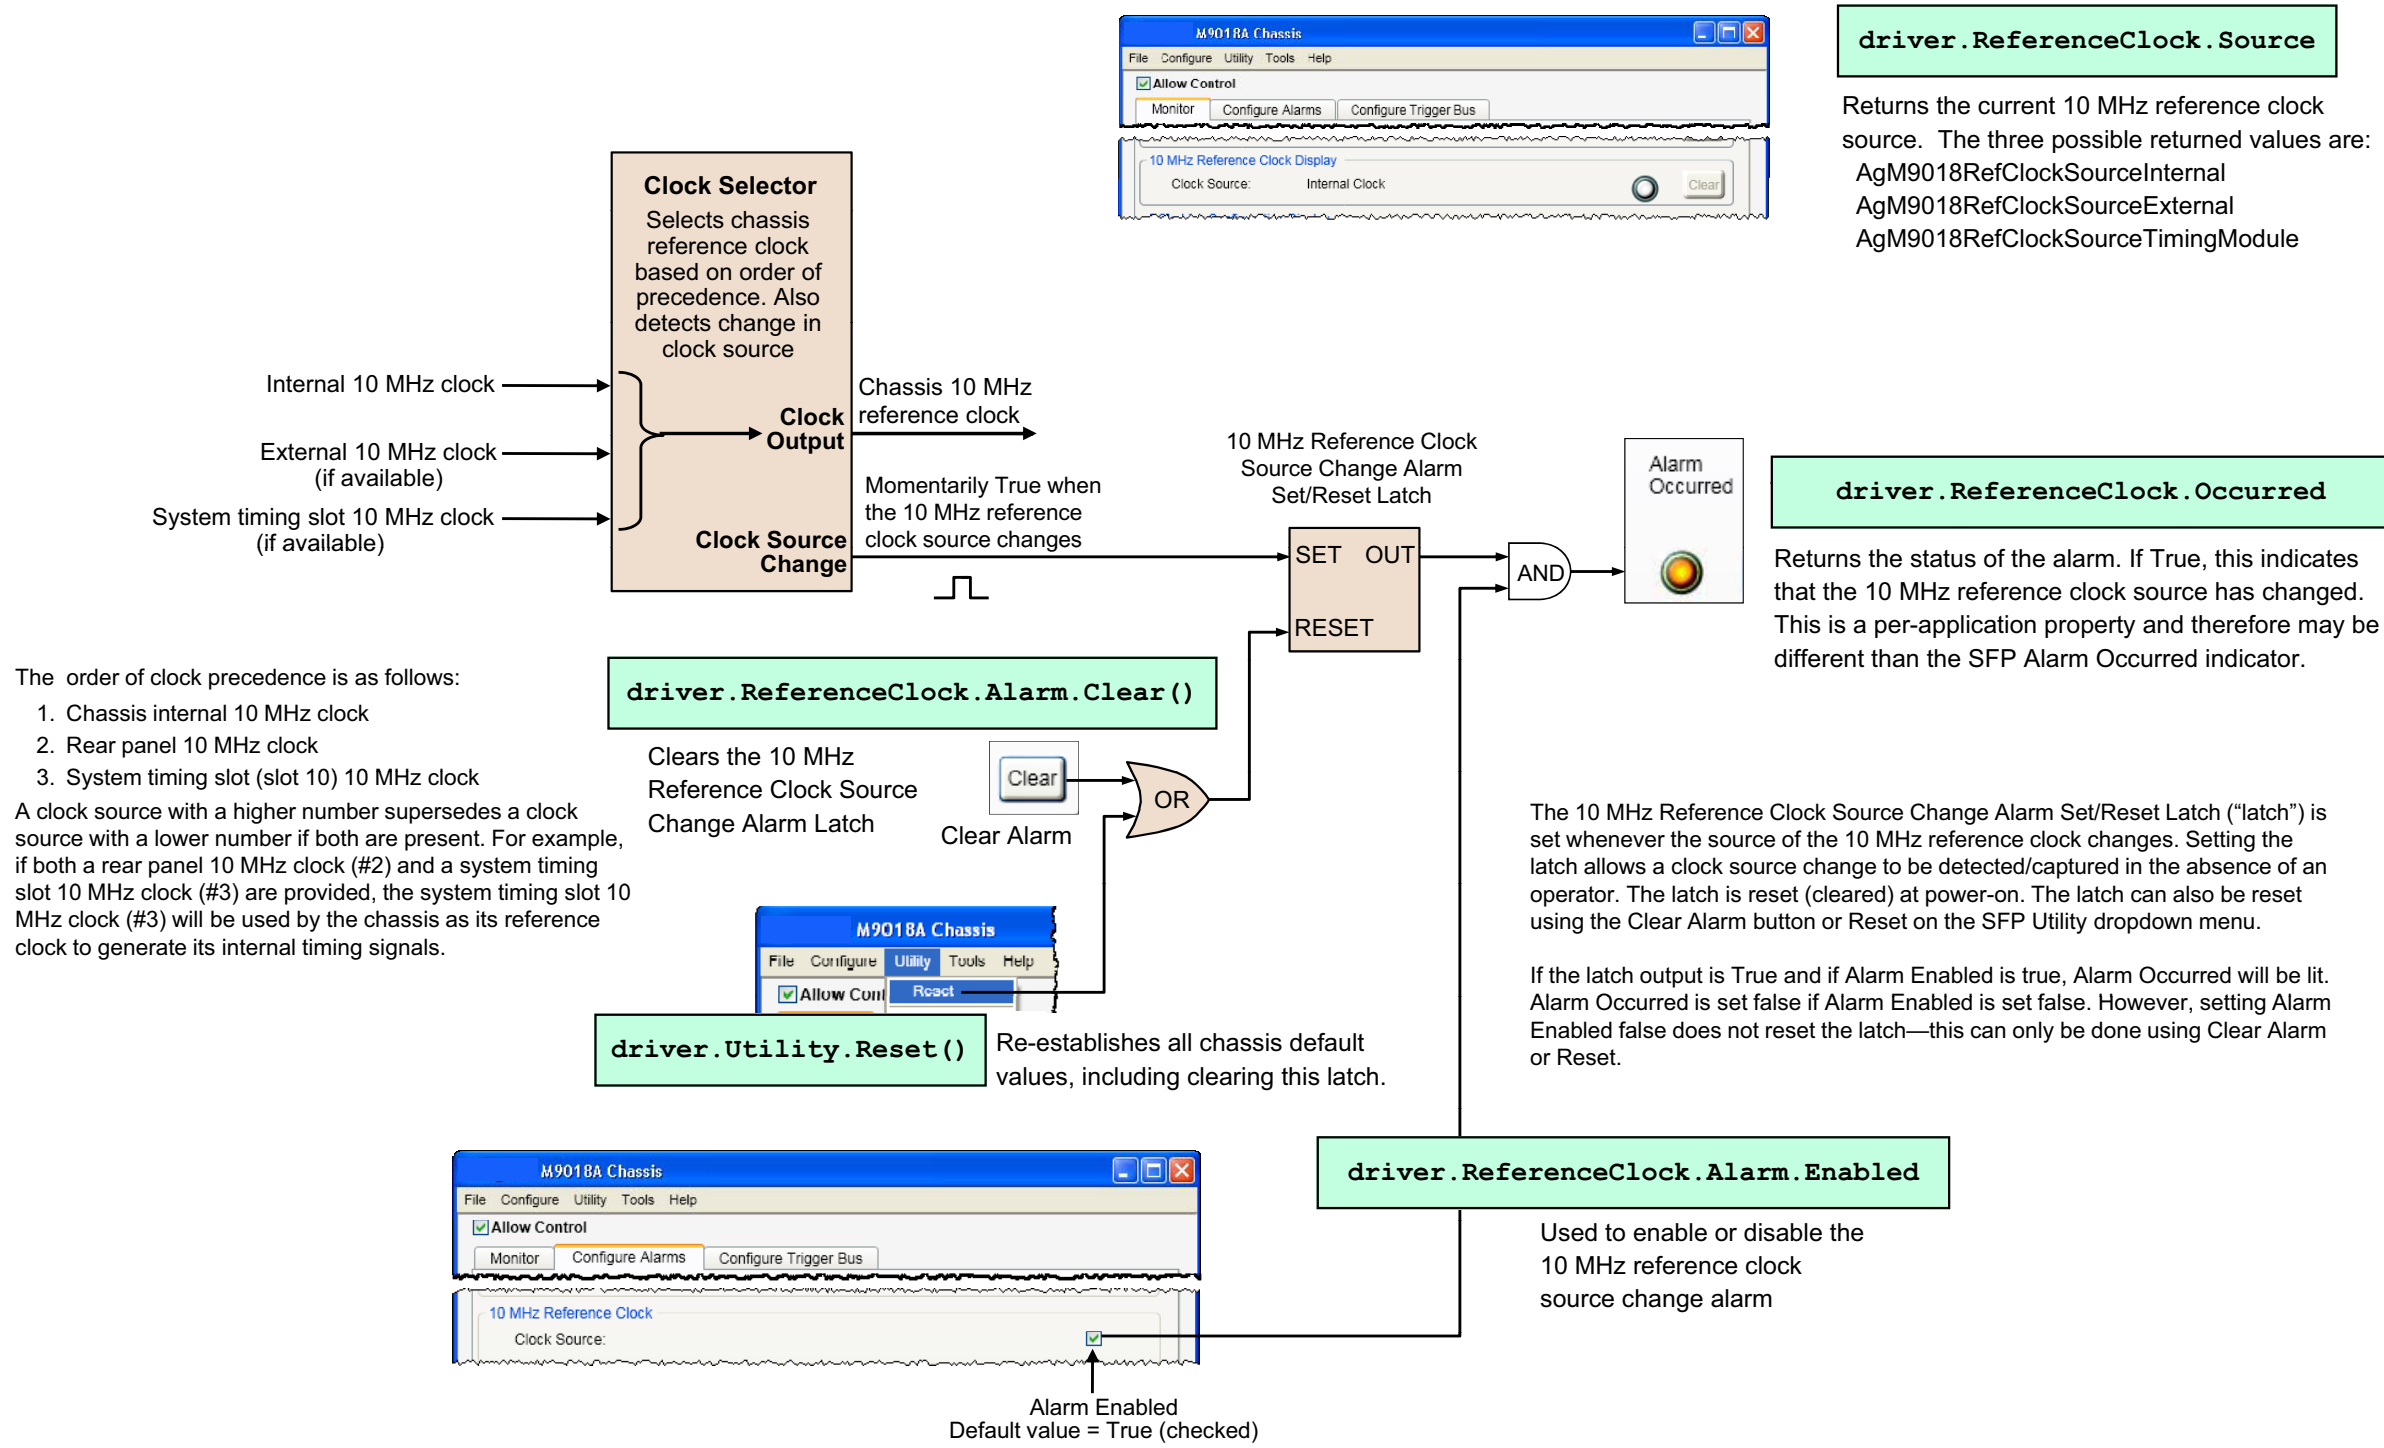

Figure 31 10MHz Reference Clock monitoring using IVI-COM and C#
- Using the IVI-COM driver and C# – Figure 31 on page 62